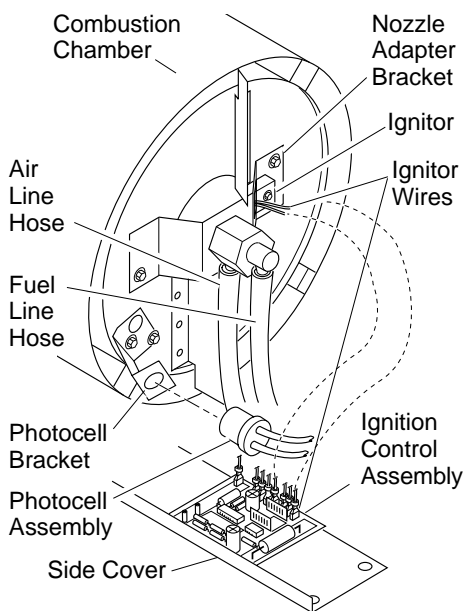

Figure 11 - Disconnecting Ignitor Wires from Ignition Control Assembly
4. Disconnect ignitor wires (yellow) from ignition control assembly (see Figure 11). Pull the ignitor wires up through the hole in the lower shell.
5. Disconnect fuel line hose and air line hose. Remove photocell from photocell bracket (see Figure 11).